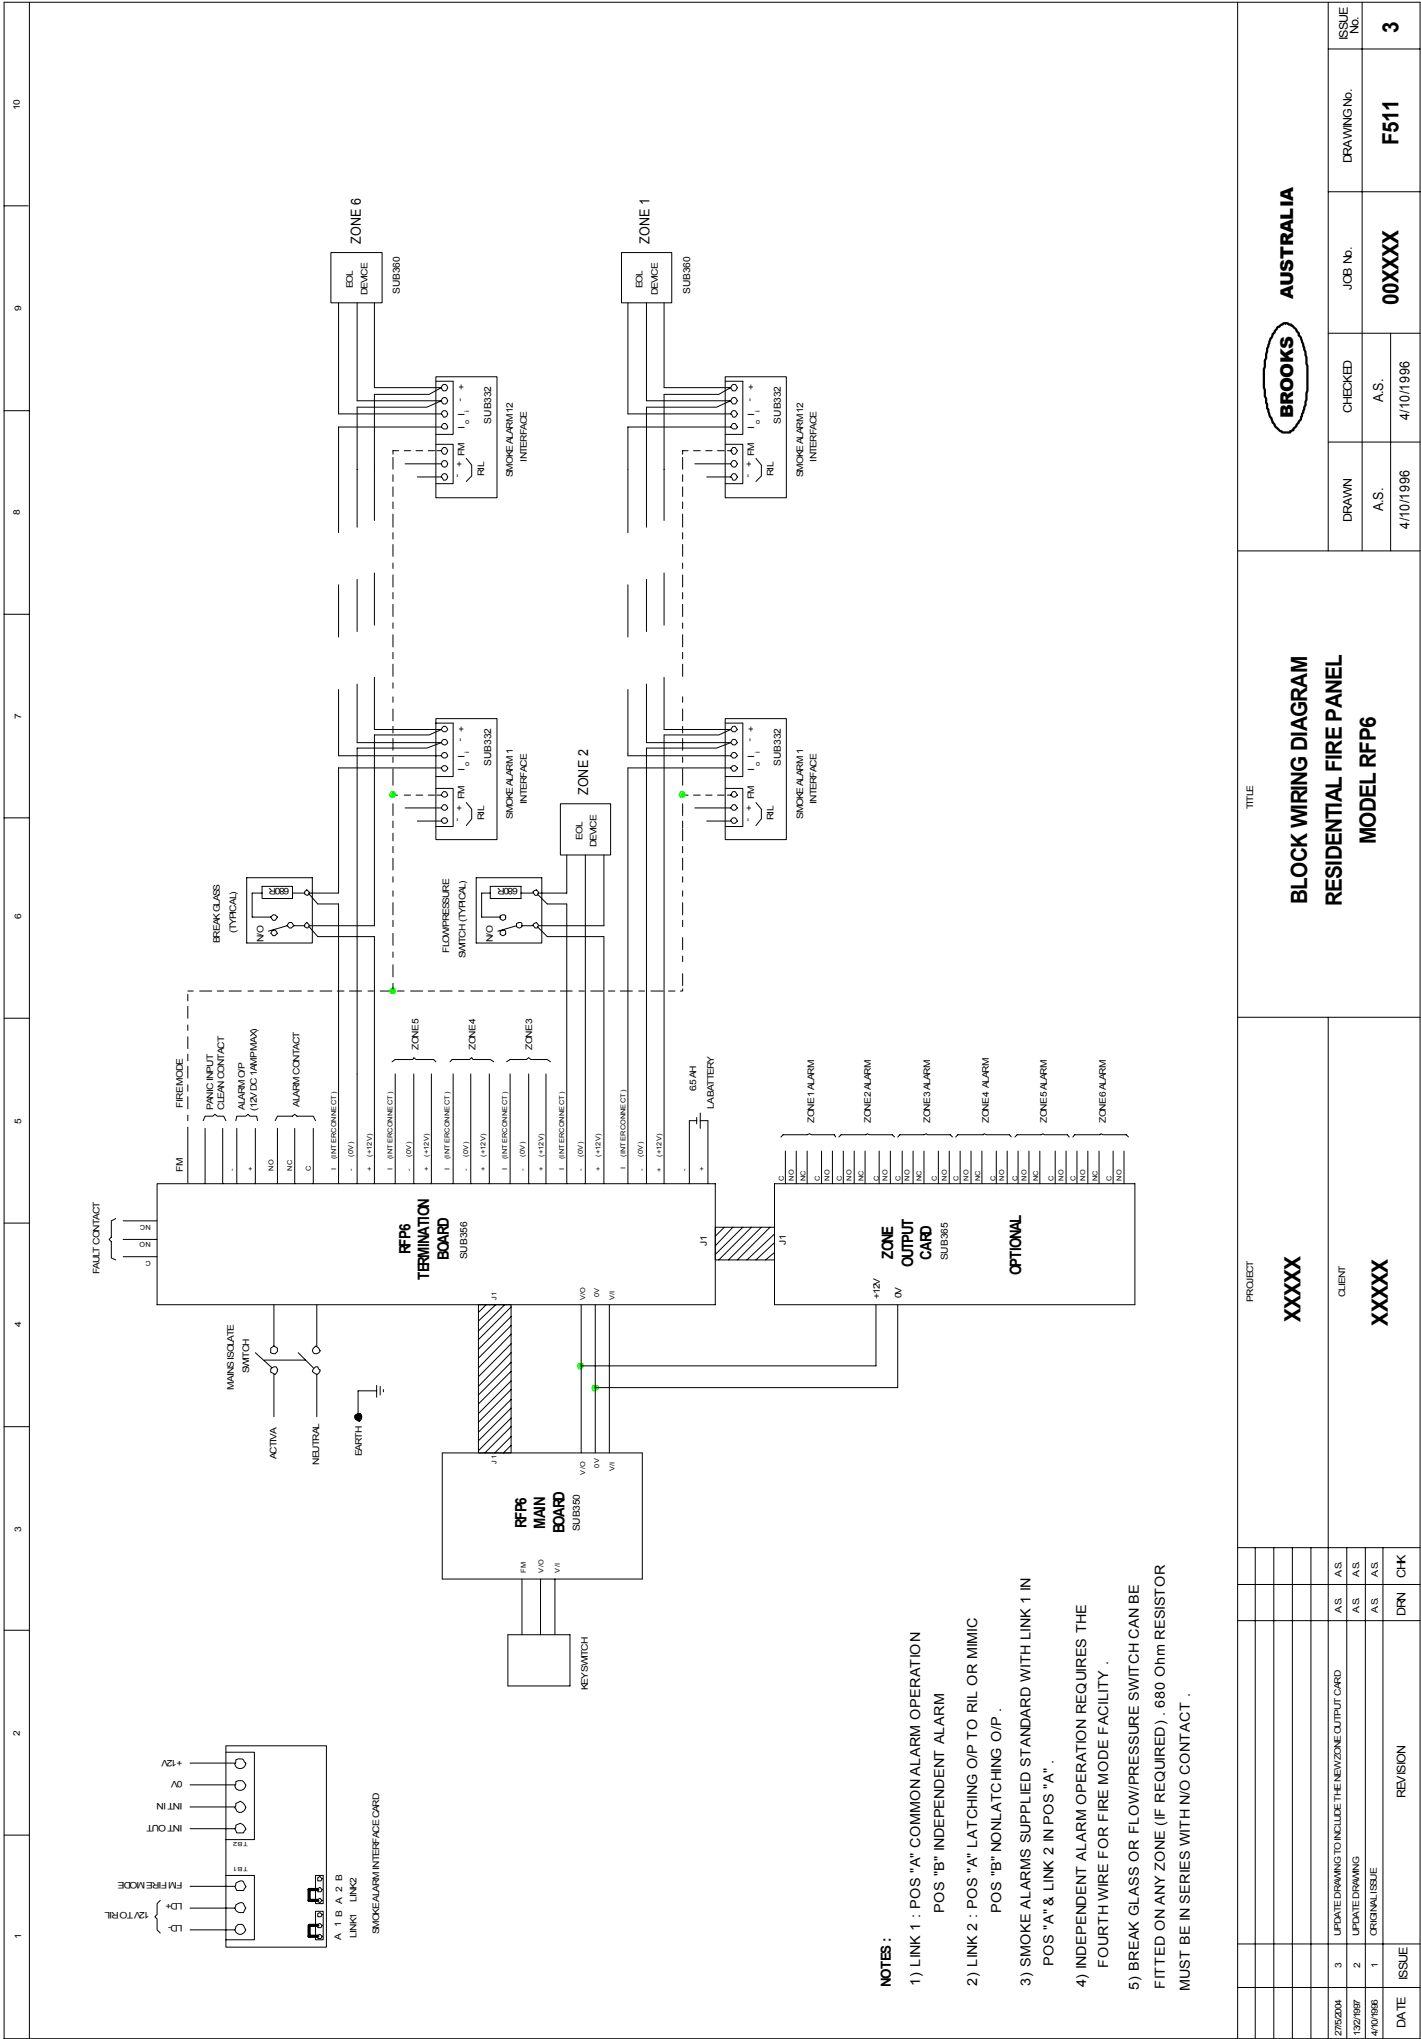

Figure 6
The termination board is clearly labelled for positive supply (+), negative supply (-) and interconnect (I) for Zone 1 to Zone 6. When terminating each zone disconnect the End Of Line device and re-terminate it at the last Smoke / Heat Alarm on the zone. Figure 6 shows how the field wiring is terminated on the termination board.
(Refer to jumper set up Fig. 6) Standalone or common alarm operation
All field cabling is to be terminated on the Terminals provided as per Fig 6. The Figure shows the conventional Block Wiring Diagram using 3 or 4 core cable for each zone as per options selected.